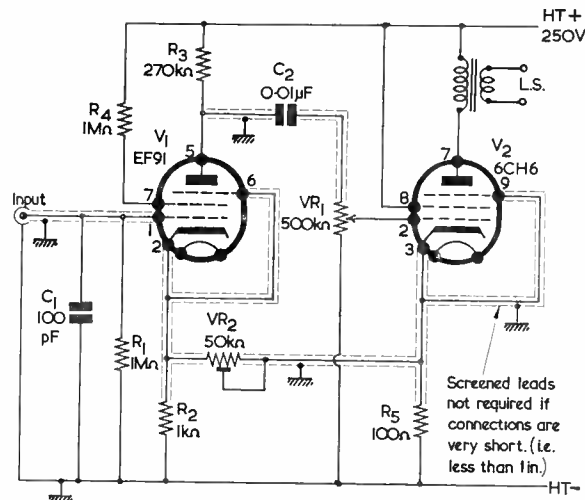
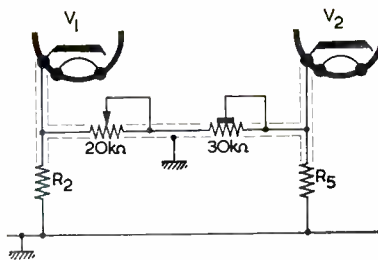

Fig. 2. A practical circuit with adjustable feedback from negative to positive. The value of VR₂ may require alteration with other component values or valves
Fig. 3. If desired, VR₂ of Fig. 2 may be split into a 20k Ω variable resistor and a 30k Ω pre-set resistor
Components List (Fig. 2)
*Or 20k Ω variable in series with 30 k Ω pre-set, as in Fig. 3.
A typical practical circuit is shown in Fig. 2 but, as was just mentioned, the scheme can be used with almost any two-stage amplifier. If it is necessary to set the pre-set potentiometer to provide maximum gain this must be done with the volume control at its maximum setting. The feedback control can be fully variable (see Fig. 3) rather than pre-set, whereupon the amplifier may be externally controlled to provide full negative feedback or maximum positive feedback without oscillation taking place. This is achieved by initially setting the 500k Ω volume control (Fig. 2) for maximum volume and the 20k Ω variable resistor (Fig. 3) for minimum resistance (maximum volume). The 30k Ω internal pre-set resistor (Fig. 3)
It should be noted that the screened leads shown in Figs. 2 and 3 are essential if hum is to be avoided, as the gain of the amplifier can be very high at maximum settings.